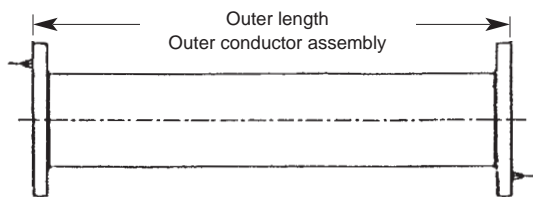

Figure 3
- 1 Determine required flange-to-flange outer conductor length, Figure 3.